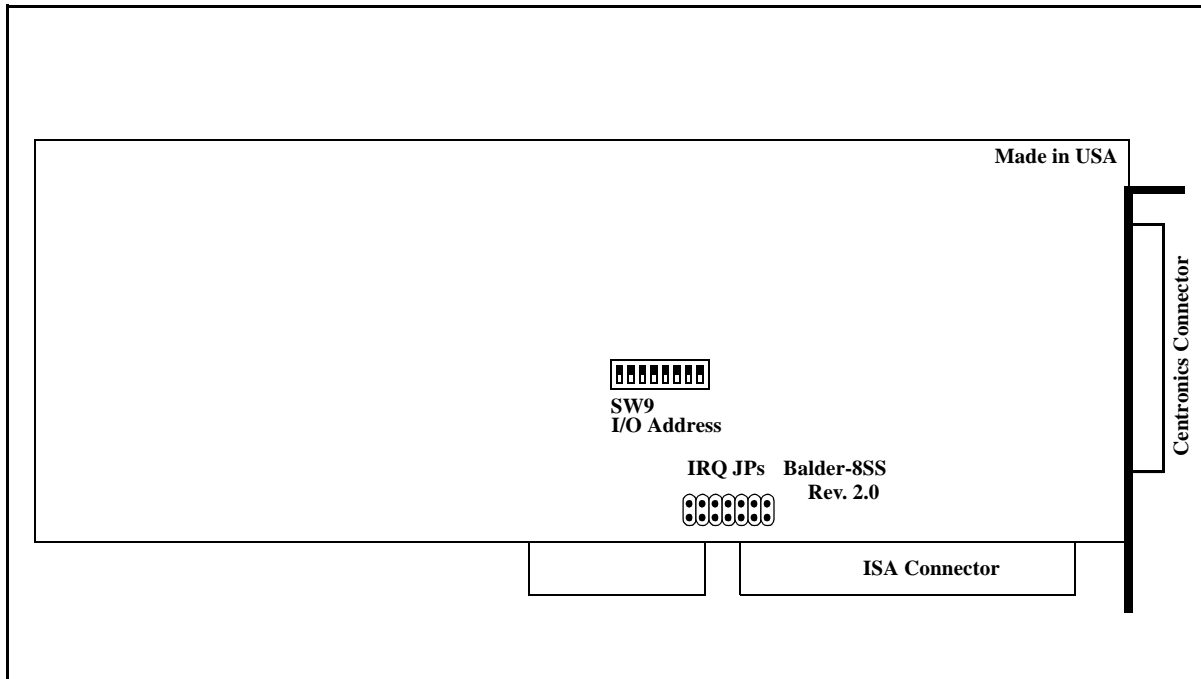

Figure 1. Balder-8S Switches and Jumpers
The Balder-8S board is configured by setting jumpers (JP) and switches (SW) on the board. The locations and names of the jumpers and switches can be found from Figure 1.